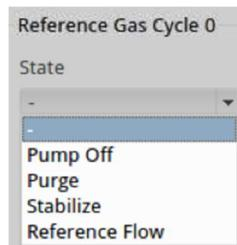

Figure 99: Select the State of the WVISS
- Set the state of the WVISS by using the drop-down selector in the *State columns*. (Figure 99)